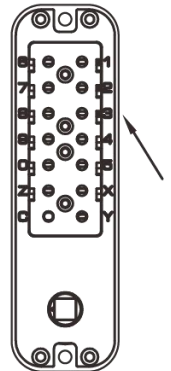

FIG2
1. After forgetting the password, we need to remove the lock from the door and search for it by examining the rectangular password peeping hole on the back of the lock, as shown in Figure 2